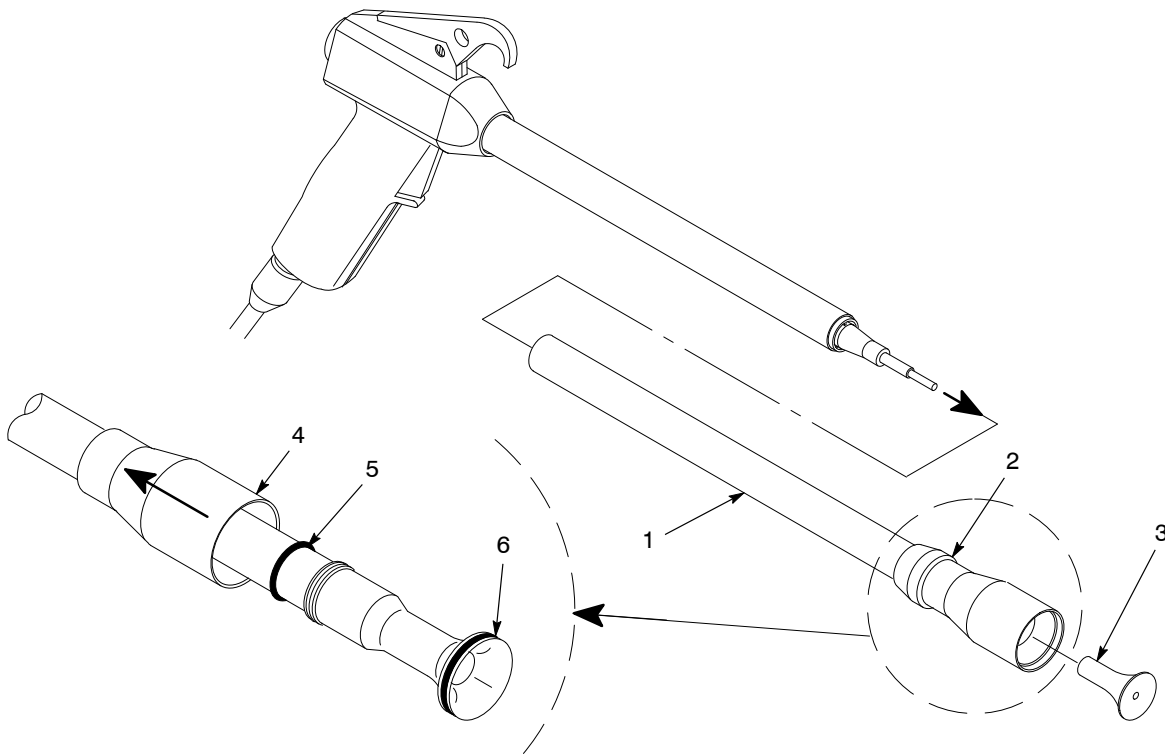

Figure 5 Outer Charge Sleeve Support and Pattern Adjust Sleeve Replacement
1. See Figure 5. Pull the outer charge sleeve support (1) out of the gun body with a slight twisting motion. The deflector (3) will pop out. Be careful not to lose it.
2. Pull the pattern adjust sleeve (4) forward.
3. Slide the pattern adjuster retainer (2) off the outer charge sleeve support.
4. Roll the black O-ring (5) onto the tube as shown.